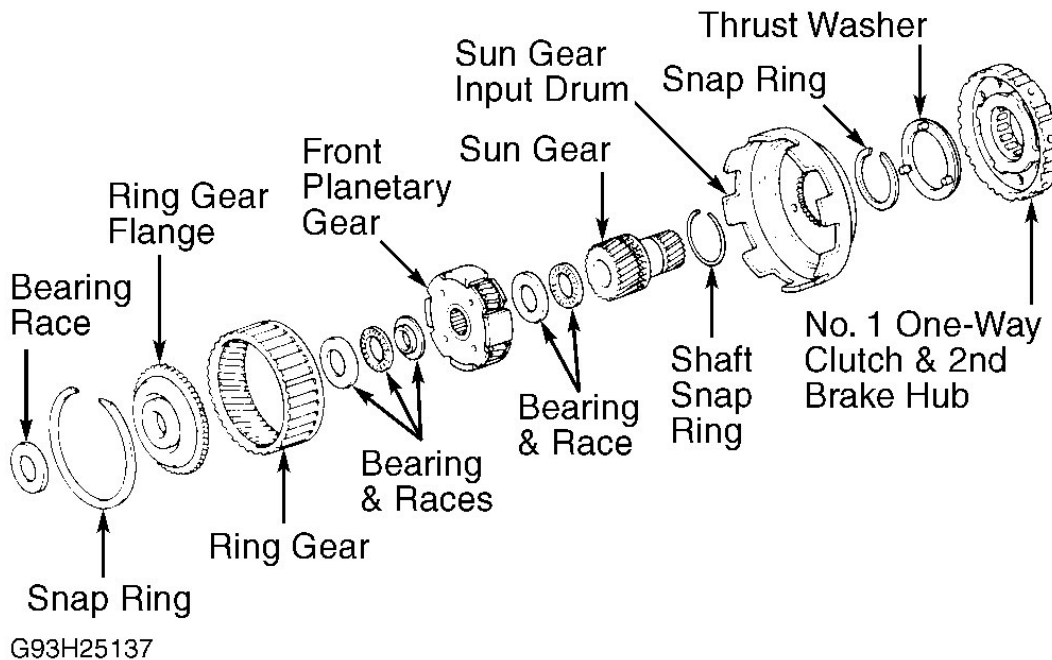

Fig. 26: Exploded View Of No. 1 One-Way Clutch, Sun Gear & Front Planetary Gear
2. Turning hub clockwise, remove one-way clutch from sun gear. Remove thrust washer from sun gear input drum. Remove snap ring. Remove sun gear input drum. See **Fig. 26**. Remove shaft snap ring from sun gear.
Install shaft snap ring on sun gear. Install sun gear input drum on sun gear. Install shaft snap ring. Install thrust washer on sun gear input drum. See **Fig. 26**. While turning hub clockwise, slide one-way clutch on sun gear. Recheck operation of No. 1 one-way clutch. Ensure hub turns clockwise while holding outer hub.